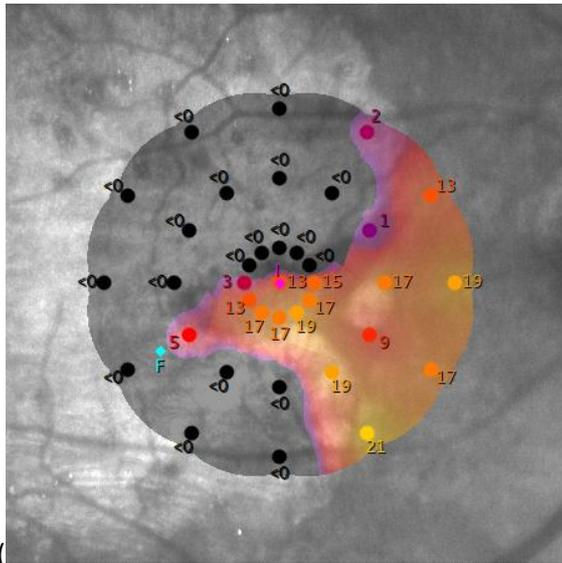

Fig. 52 – Interpolated sensitivity map (4-2 strategy)
- Stimuli and related threshold in dB: it is possible also to view the interpolated sensitivity map (see Fig. 52), a 2D map representing the sensitivity on each point of the retina using the information coming from the nearby stimuli;
| Display stimuli and the corresponding threshold values / display stimuli and interpolated sensitivity map (see Fig. 52) / disable display of stimuli / display stimuli IDs [preceded by "#"] (4 options) |  |